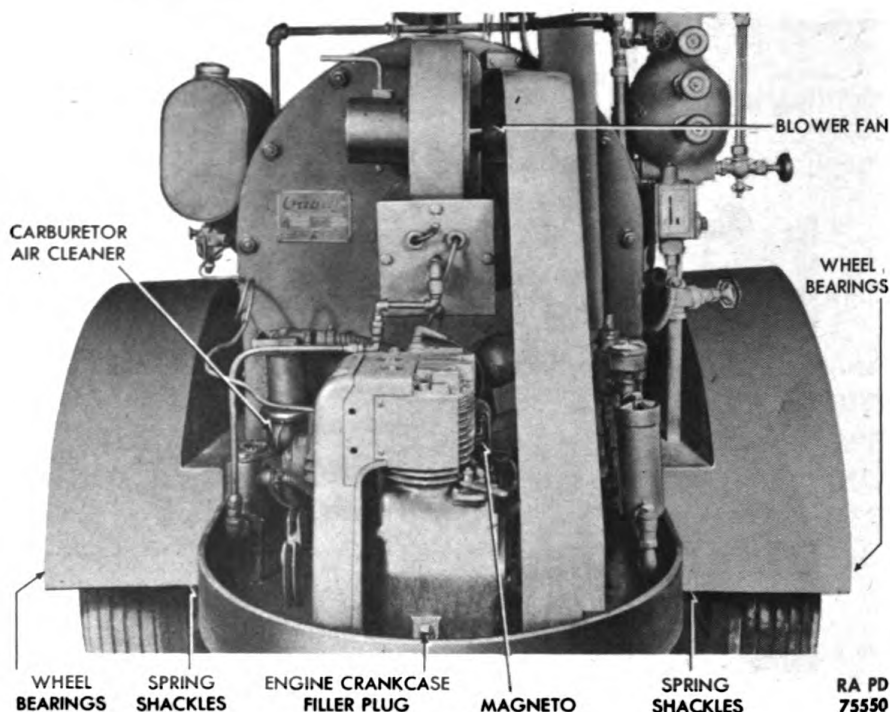

Figure 127 — Lubrication Points of Steam Generating Plant
(1) GENERAL.
- (a) *Spring Shackles* (fig. 127). Every 30 days, unless plant is in
(b) *Wheel Bearings* (fig. 127). Annually, remove wheels and and clean all parts in solvent. Dry thoroughly. Repack bearings with GREASE, wheel bearing, No. 2.
(2) *BLOWER FAN* (fig. 127). Every day plant is in use, turn grease cup on blower fan shaft housing down two full turns with fingers. When cup empties, fill with GREASE, general purpose, No. 2.
(3) ENGINE.
(a) *Crankcase* (fig. 127). After 50 hours' operation (following cleaning of lead deposits from cylinder as outlined in subparagraph a (3), above, drain crankcase. Replace drain plug and fill to level of filler plug with engine oil selected in accordance with chart below. Approximate capacity is $1\frac{3}{4}$ pints.
(b) *Carburetor Air Cleaner* (fig. 127). Once a week (oftener under dusty conditions), remove air cleaner oil reservoir. Empty oil from reservoir and wipe reservoir with clean cloth. Fill reservoir to bead with OIL, engine (crankcase grade) (approx. $\frac{1}{4}$ pt). Install reservoir on filter. Periodically, depending on conditions under which plant operates, remove entire air cleaner and wash element in SOLVENT, dry-cleaning. Dry thoroughly and install.
(d) *Magneto* (fig. 127). After every 200 hours operation, fill the two oilers (one on each side of main housing) to overflowing with OIL, engine, SAE 10. It is necessary to remove (par. 80 d (3)) the magneto to reach the oilers on this installation.